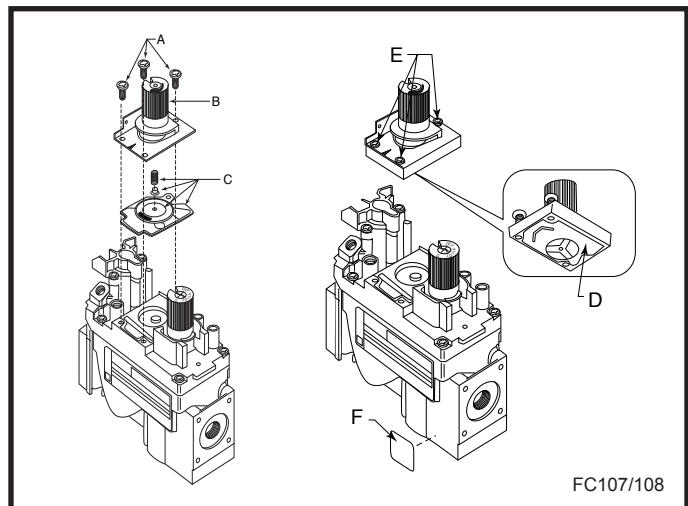

Fig. 50 Nova SIT820 Gas Valve.
10. SIT 820 NOVA Gas Control Valve (Fig. 50)
- a. Using a Torx T20 or slotted screwdriver, remove and save the three pressure regulator mounting screws (A), pressure regulator tower (B) and diaphragm (C).